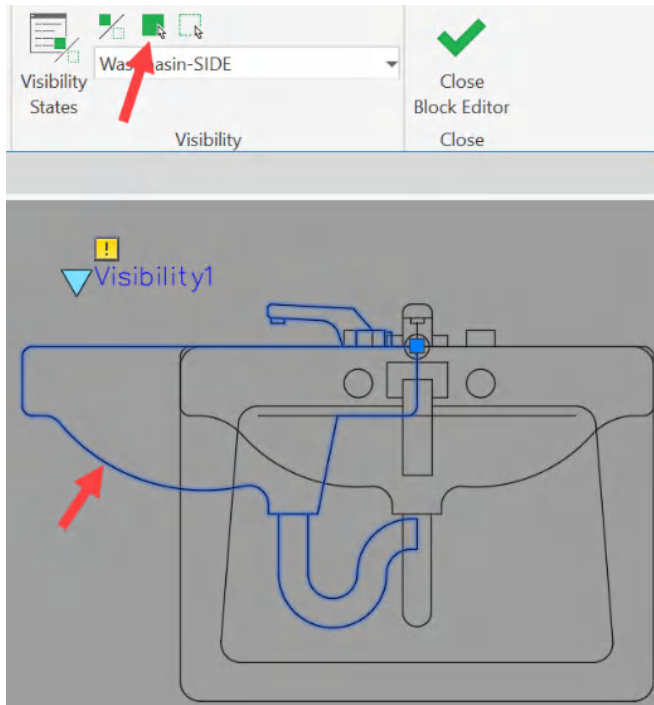

Figure 12.28: The selected side view block being made visible
13. The ribbon's **Visibility** panel shows which visibility state you use. Select the regular block that displays the side view of the washbasin, as shown in *Figure 12.28*, and click on the green square icon, also shown in *Figure 12.28*. This sets that block as visible in the visibility state.